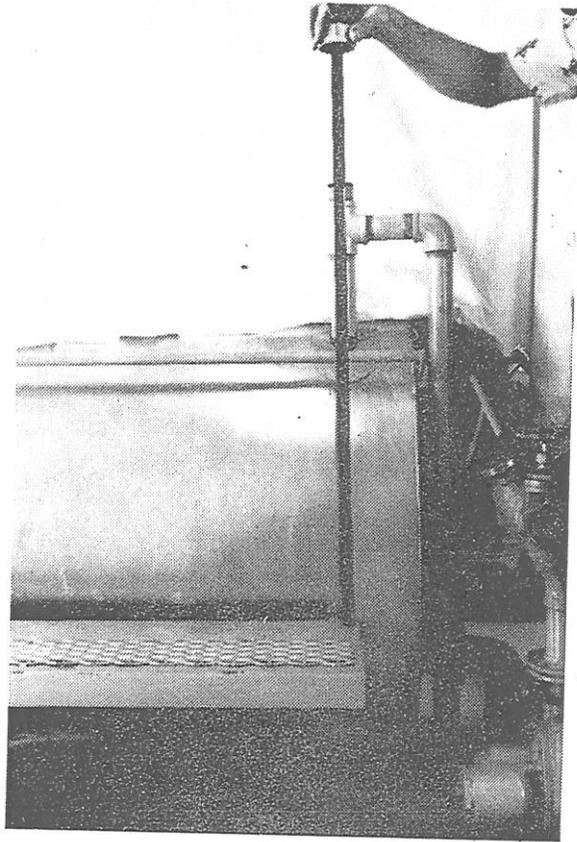

Figure 4 - Checking Heat Transfer Oil Supply
5. Check heat transfer oil supply, refer to Figure 4.